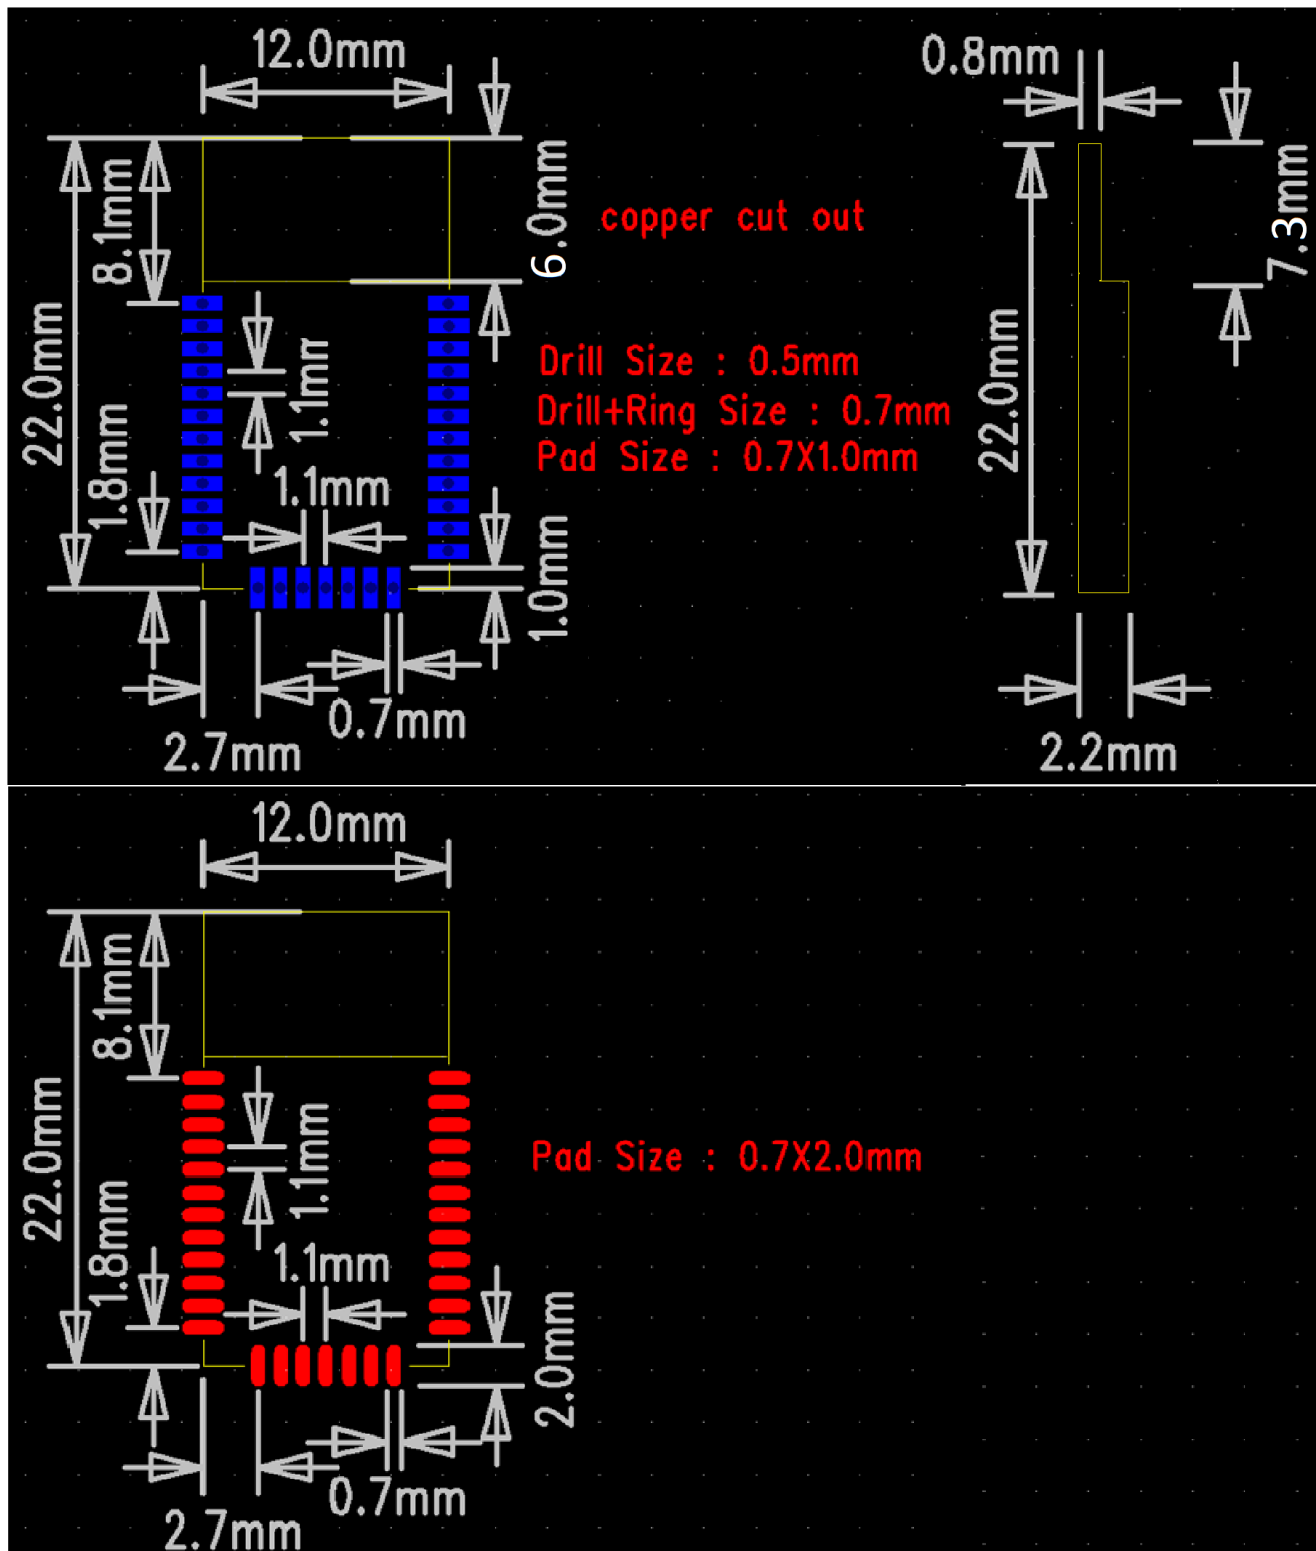

Figure 8: Mechanical Size and Recommended PCB Footprint
1. No ground below antenna region (copper cut out in Figure 8) of the FMB120.